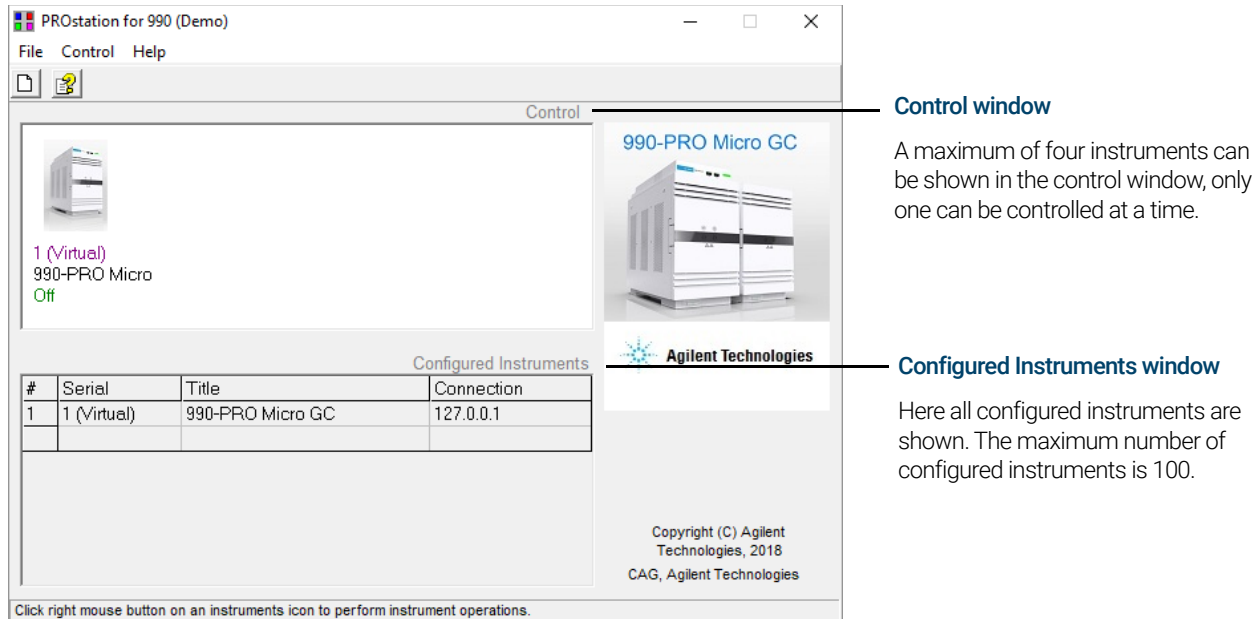

Figure 2. Main menu
- 5 Log in with new password or click the **OK** button if the **No Password** option is enabled. PROstation opens with the main screen as shown in **Figure 2** on page 25.